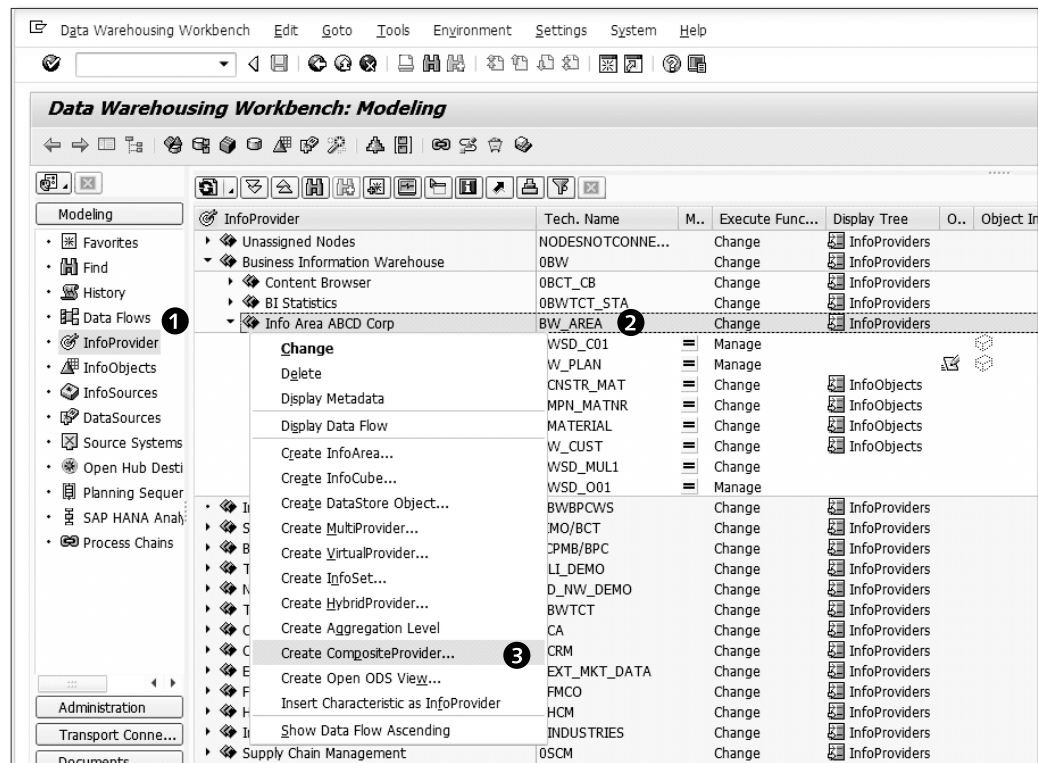
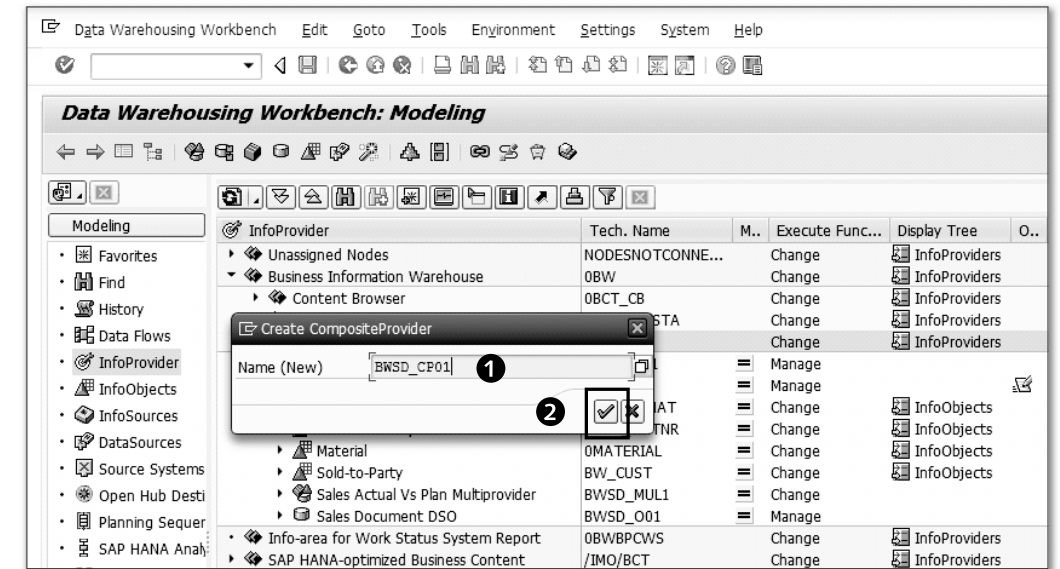
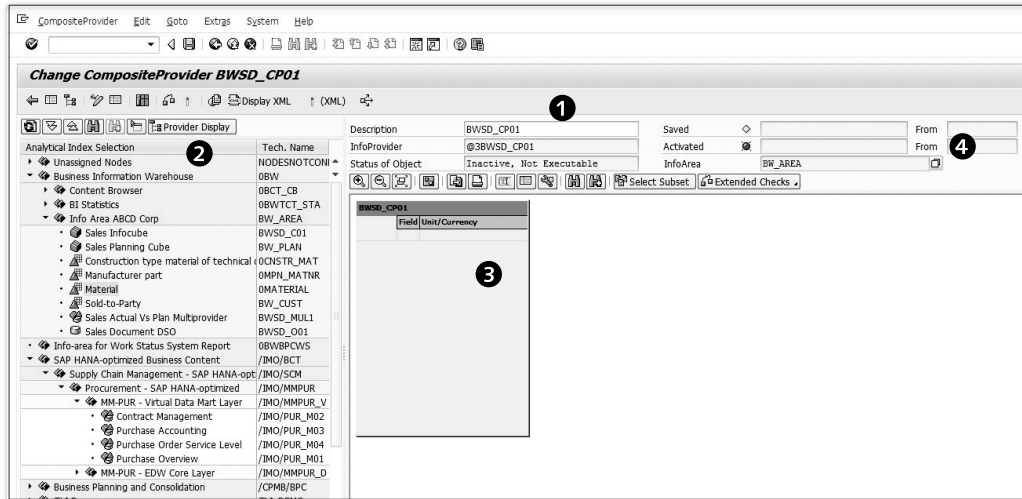

Figure 6.67 Creating a CompositeProvider
Figure 6.68 Entering the Technical Name for the CompositeProvider
Figure 6.69 Reference Data Model for the CompositeProvider
A CompositeProvider is created in the DATA WAREHOUSING WORKBENCH screen, which is opened using Transaction RSA1. Select INFOPROVIDER under MODELING from the navigator section, as shown in ❶ of Figure 6.67. Select the InfoArea under which you want to create your CompositeProvider ❷. From the context menu, select CREATE COMPOSITEPROVIDER ❸. The CREATE COMPOSITEPROVIDER pop-up appears, as shown in Figure 6.68.
Enter the technical name and description of the CompositeProvider (❶ of Figure 6.68). Click on the CREATE icon ❷. This takes you to the screen where you define the reference data model for the CompositeProvider (see Figure 6.69 in the next section).
The naming convention by SAP, that is, all CompositeProvider begin with "@3", is defaulted in the technical name for the InfoProvider in the right panel as shown in ❶ of Figure 6.69.
The left panel provides all possible objects that could be used in creation of the CompositeProvider (2 of Figure 6.69). The CompositeProvider is shown in the right panel (3). We recommend identifying the CompositeProvider into a specific InfoArea by using the INFOAREA dropdown menu in the right panel (4).